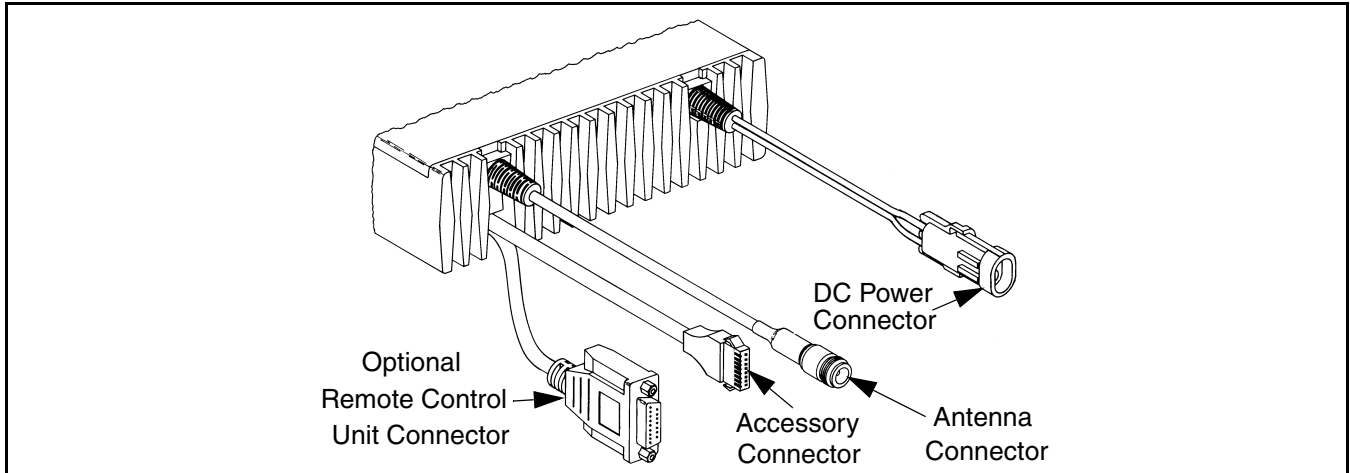

Figure 2-2 Rear Panel Connectors
**DC Power** - Connection point for the nominal 12-volt, negative ground power source (see Figure 2-2).